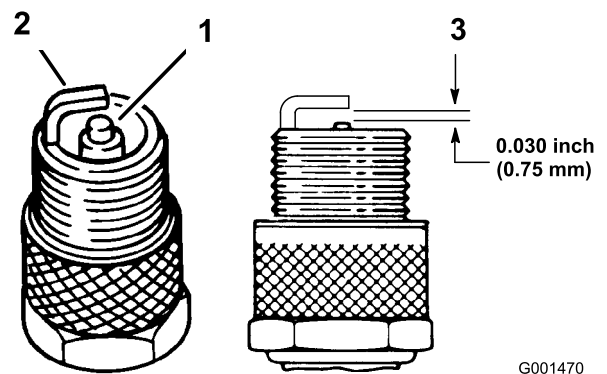

Figure 26
1. Look at the center of the spark plugs (Figure 26).
3. Check the gap between the center and side electrodes (Figure 26).
4. Bend the side electrode (Figure 26) if the gap is not correct.
Note: Ensure that the air gap is set correctly (Figure 26).
3. Connect the wires to the spark plugs (Figure 26).